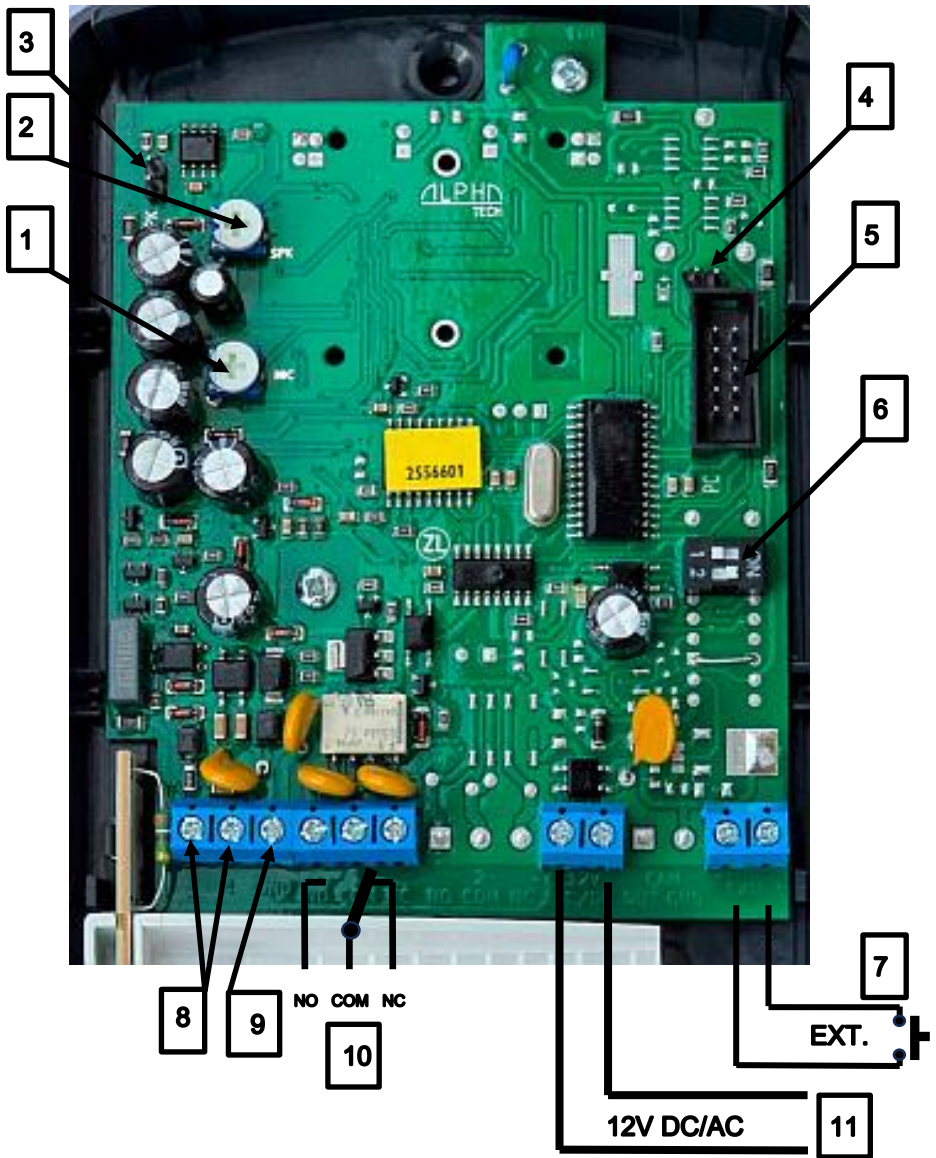

Fig. 1 Fores Smyle door communicator mainboard
The basic function (making and receiving calls) requires only the connection of a **telephone line** – LINE (8) in Fig. 1.